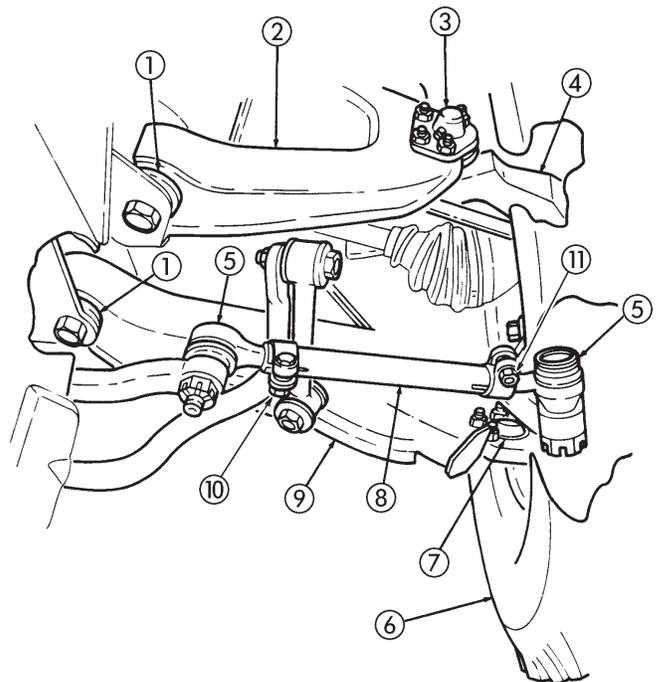

Figure 7-1.
A. TOE-IN/FRONT WHEEL CHECK AND INSPECTION (Figures 7-1, 7-2, 7-3, 7,4 and 7-5)
a. Preliminary Inspection (Figure 7-1)
1. Check all tires (6) for uniform tread wear.
2. Raise vehicle and support under lower control arm (9).
3. Check geared hubs (4) for output spindle end play by grasping edges of tires (6) and attempting to move tires (6) up and down. Adjust spindle bearings if any spindle movement is apparent.